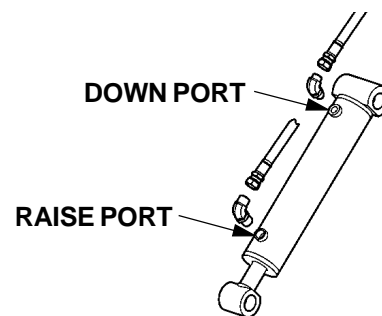

FIG. 37-3
3. Check the Hydraulic Cylinder. With the Platform on the ground, remove the hydraulic line from the Down Port of the Cylinder (**FIG. 37-3**). Raise the Platform even with the bed. Allow pump motor to run two seconds more while you watch for hydraulic fluid at the Down Port. A few drops of hydraulic fluid escaping the Down Port is normal; however, if it streams from the Down Port, Piston Seals are worn. Replace Seals.